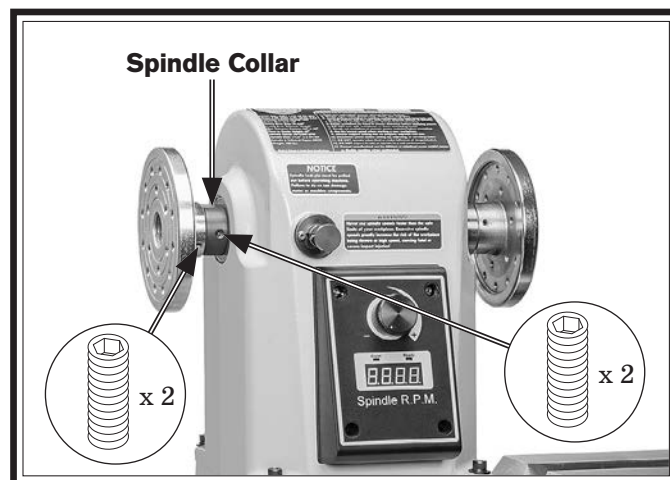

Figure 52. V-belt removal components.
3. Loosen belt-tension lock handle on motor mount (see **Figure 52**).
6. Loosen (4) set screws securing outboard faceplate and spindle collar on spindle, then remove outboard faceplate and spindle collar (see **Figure 52**).